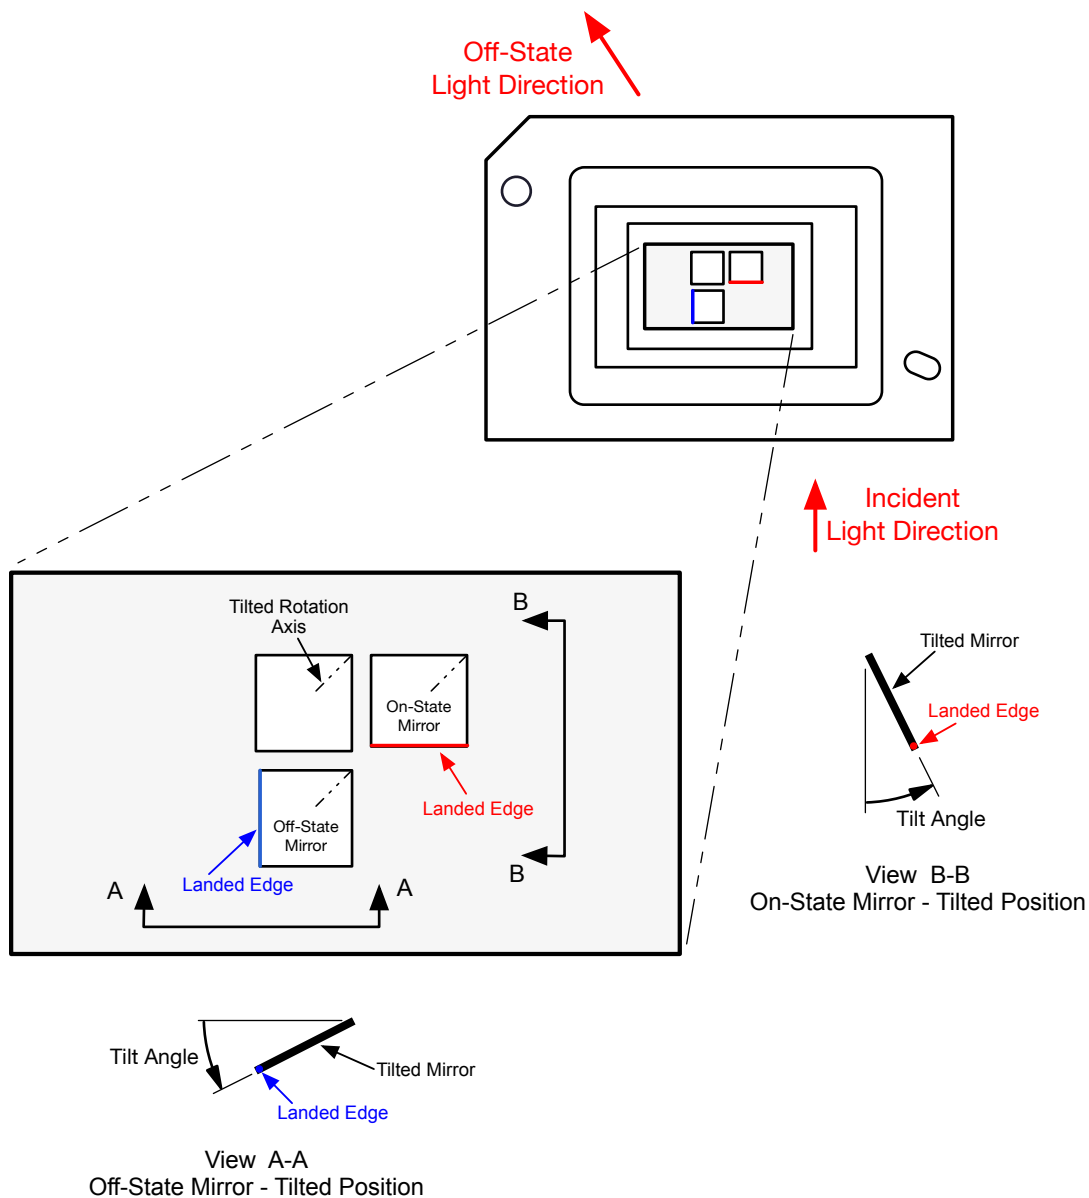

FIG 6-10. Micromirror Landed Orientation and Tilt
- (1) Measured relative to the plane formed by the overall micromirror array
- (2) Represents the variation that can occur between any two individual micromirrors, located on the same device or located on different devices.
- (3) For some applications, it is critical to account for the micromirror tilt angle variation in the overall system optical design. With some system optical designs, the micromirror tilt angle variation within a device may result in perceivable non-uniformities in the light field reflected from the micromirror array. With some system optical designs, the micromirror tilt angle variation between devices may result in colorimetry variations, system efficiency variations or system contrast variations.
- (4) When the micromirror array is landed (not parked), the tilt direction of each individual micromirror is dictated by the binary contents of the CMOS memory cell associated with each individual micromirror. A binary value of 1 results in a micromirror landing in the ON State direction. A binary value of 0 results in a micromirror landing in the OFF State direction. See Figure 6-10.
- (5) The time required for a micromirror to nominally transition from one landed state to the opposite landed state.
- (6) The minimum time between successive transitions of a micromirror.
- (7) An out-of-specification micromirror is defined as a micromirror that is unable to transition between the two landed states within the specified MICROMIRROR SWITCHING Time.
- (8) Efficiency numbers assume 35-degree illumination angle, F/2.4 illumination and collection cones, uniform source spectrum, and uniform pupil illumination.